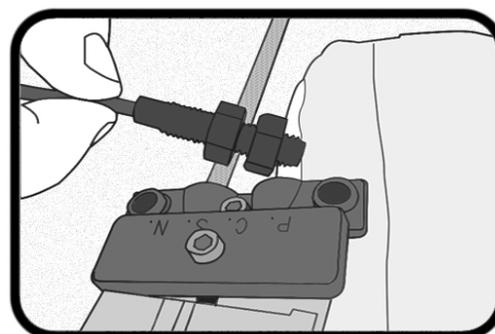

Fig. 2
**Step 2:** Unscrew and remove the Auto-stop Sensor from the Guide. **(Fig. 2)** Tuck the Sensor safely out of the way.